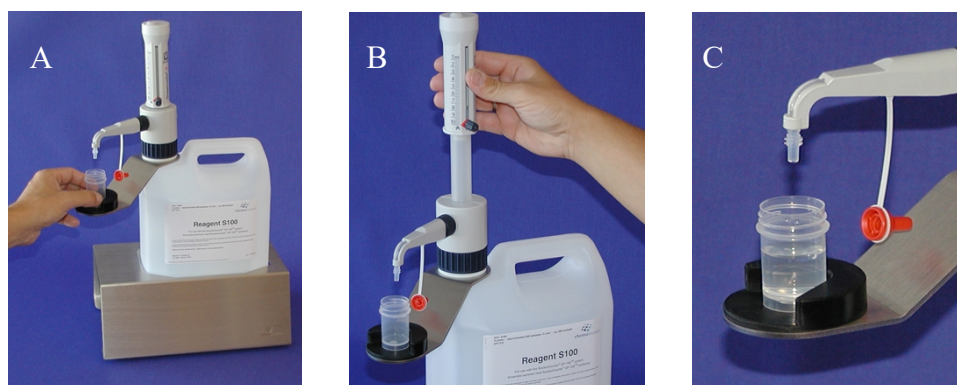

Figure 2. (A) Placing the sample cup in the cup holder; (B) Dispensing 10 ml or 20 ml of Reagent S100; (C) Sample cup with lyzate mixture.
- 4A. Place the sample cup in the cup-holder and dispense 20,00 ml of Reagent S100 into the cup using the dispenser. Dispense the reagent directly onto the semen sample at the bottom of the cup. Use a firm, consistent plunger pressure, so that the plunger moves smoothly (*cf. figure 2*). Put on the lid and Vortex the mixture for 10 seconds if the ejaculate is not fresh.
- 4B. Place the sample cup in the cup-holder and dispense 10,00 ml of Reagent S100 into the cup using the dispenser. Dispense the reagent directly onto the semen sample at the bottom of the cup. Use a firm, consistent plunger pressure, so that the plunger moves smoothly (*cf. figure 2*). Put on the lid and Vortex the mixture for 10 seconds if the ejaculate is not fresh.